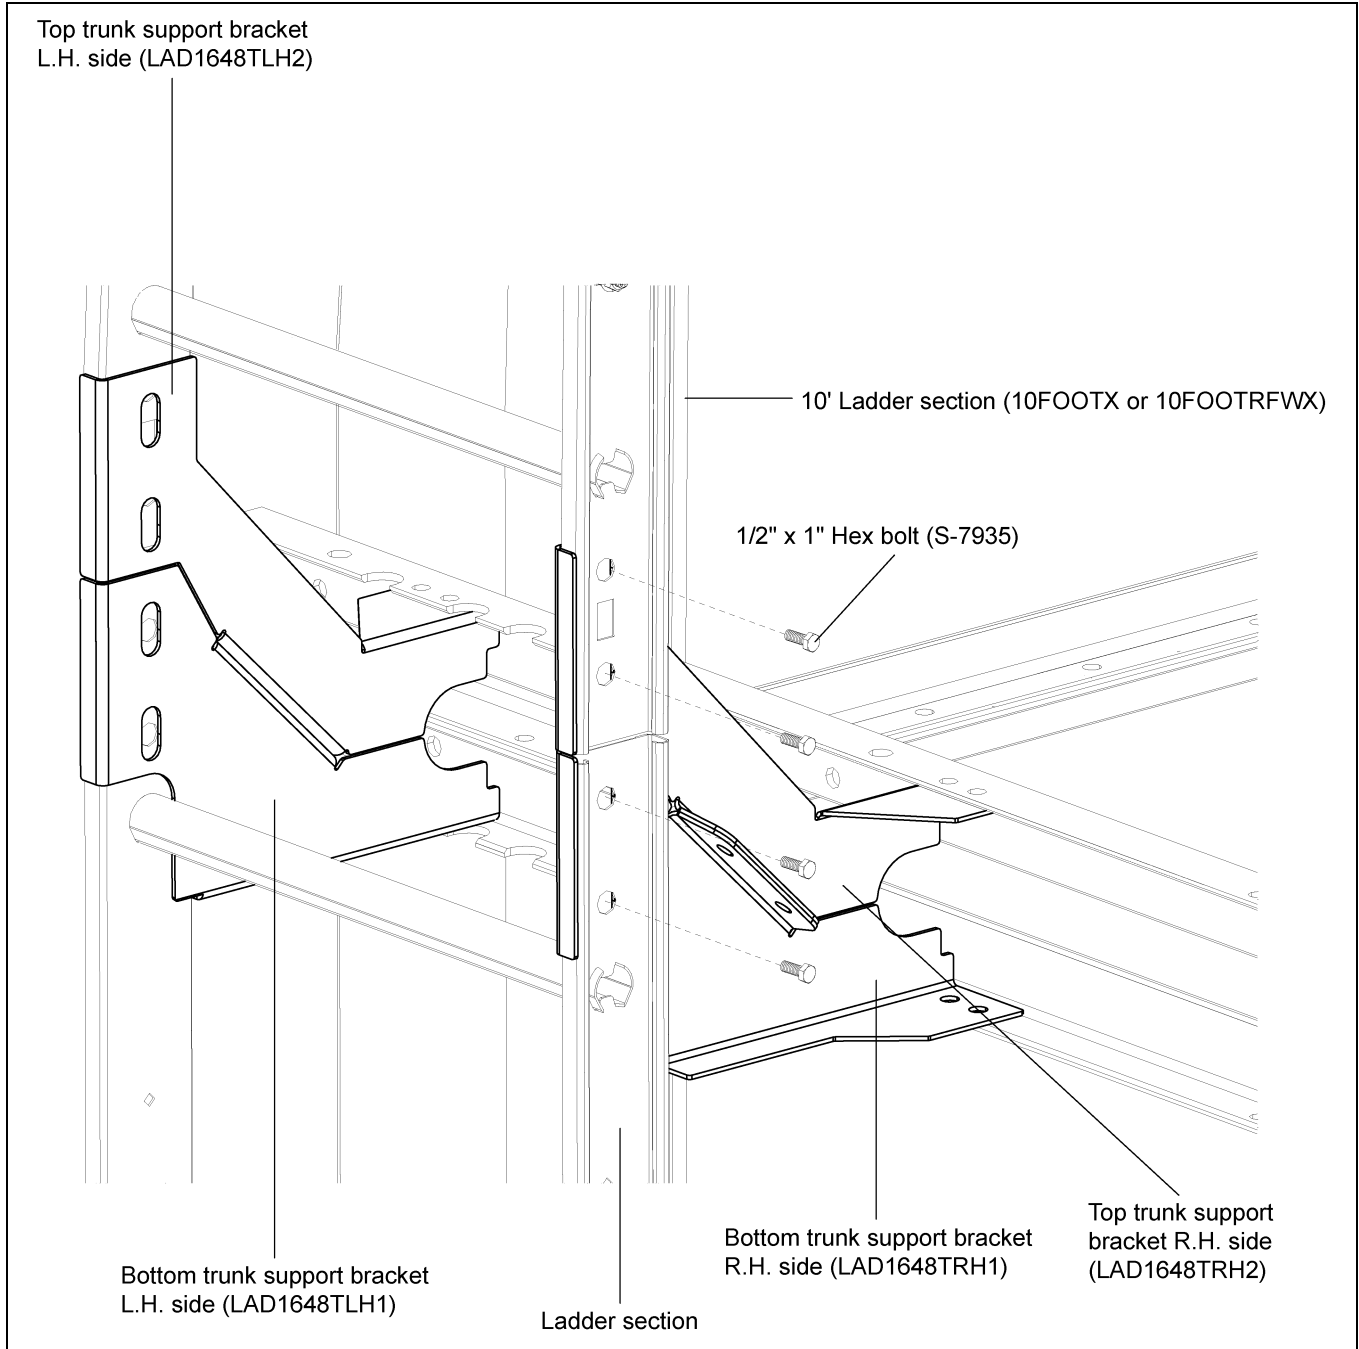

Figure 6M
1. Attach ladder sections to the ladder brackets using 1/2" x 1" hex bolts (S-7935). (See Figure 6M.)